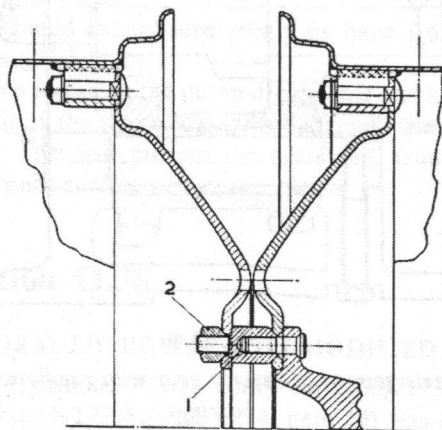

Fig. Q.47
Secure the inner pair of wheels on the axle with the wheel nuts (inner, (1) Fig. Q.47), tightening them securely.
Fit the wheels and tighten the nuts (outer, (2) Fig. Q.47) securely.